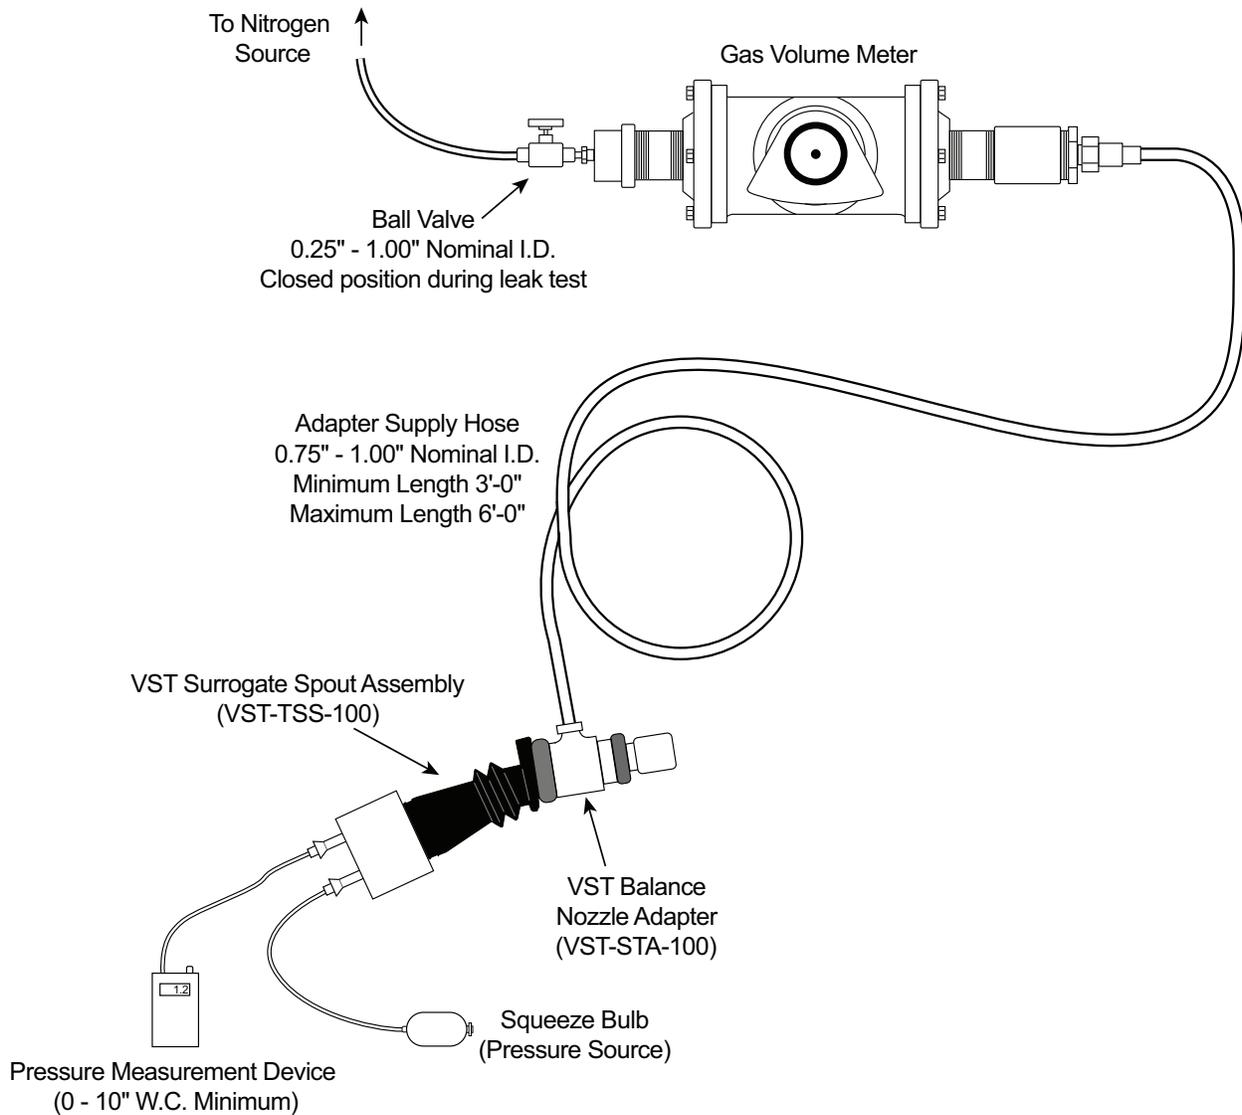

Figure 23. VST Surrogate Spout Assembly
Surrogate Spout. Only the VST Surrogate Spout Assembly, VST-TSS-100, can be used to conduct the pre-test leak check. Figure 23 shows the VST Surrogate Spout Assembly.
3. Conduct a pre-test leak check of the Balance Nozzle Adapter, the gas volume meter and the adapter supply hose by connecting the Balance Nozzle Adapter to a surrogate spout as shown in Figure 23. Turn the ball valve in the Figure 23 to the closed position. Raise the test pressure to 5.00" \pm 0.50" WC using a squeeze bulb. There shall not be a pressure drop of more than 1.00" WC from the above starting pressure for 30 seconds from the start of the test. If the leak test passes, proceed with the testing. If the leak test fails, proceed to isolate the source of the leak by pressurizing the test equipment again. Squirt liquid leak detector solution on interfaces and other potential leak sources and watch for the formation of bubbles. Once leak(s) are repaired, repeat the leak test procedure.